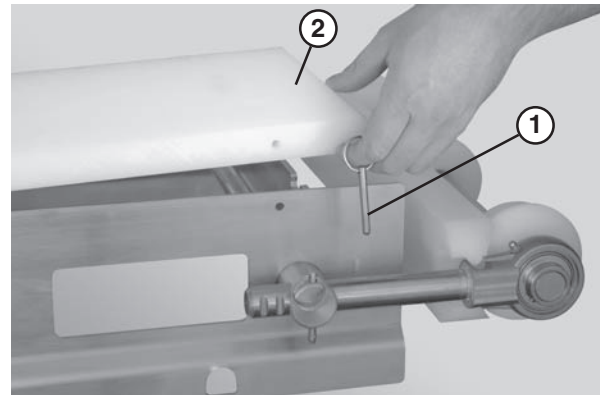

Figure 39
1. Remove the guides, if applicable, by removing the pull pins (**Figure 39, item 1**) that connect the guide (**Figure 39, item 2**) to the frame.